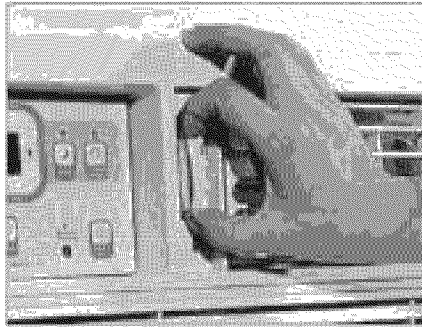

Fig. 1 (OFF)
1. Recirculate inside air - Vent Closed (see Fig. 1)